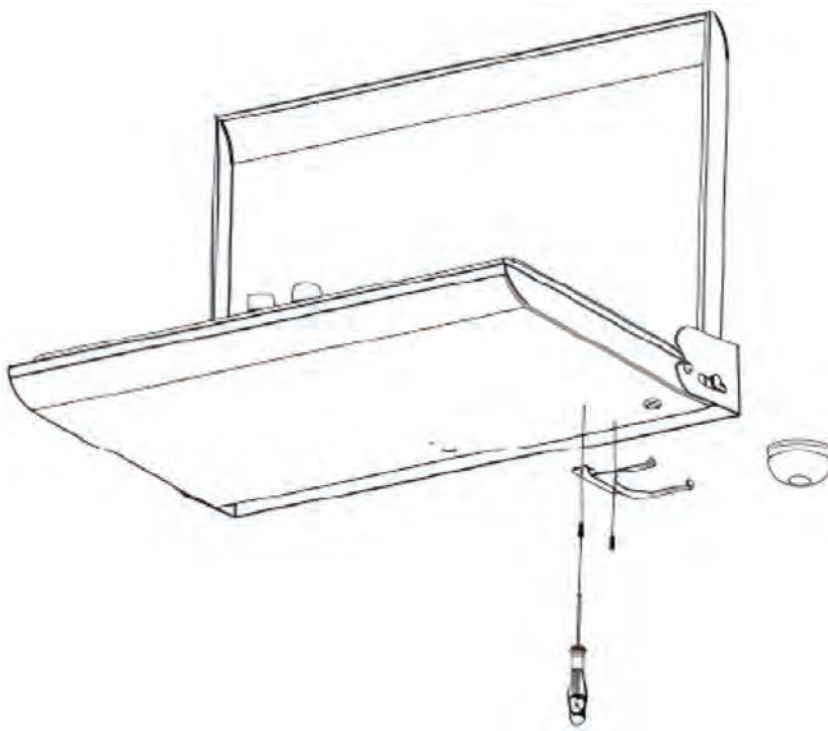

Fig 6.
- Assemble the oil drain cup part on the product. Then, place the oil drain cup on the sheet part (FIG 6).